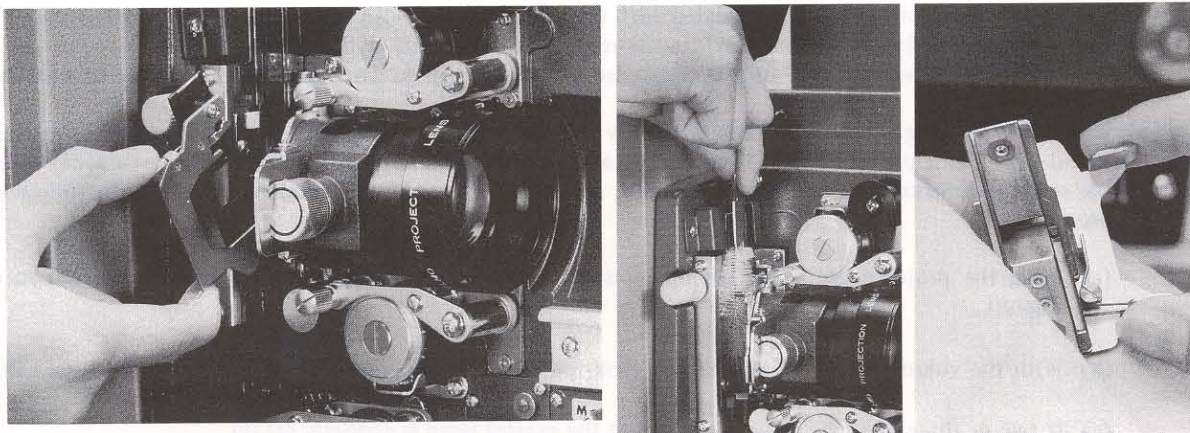

Fig. 18
- (1) Wipe dust off the aperture plate with the supplied brush. (Fig. 18)
- (2) Clean the pressure plate carefully using a soft cloth.
- (3) A film residue adhered on the pressure plate will scratch the film, so such a residue deposit must be wiped off completely by rubbing off with the brush.